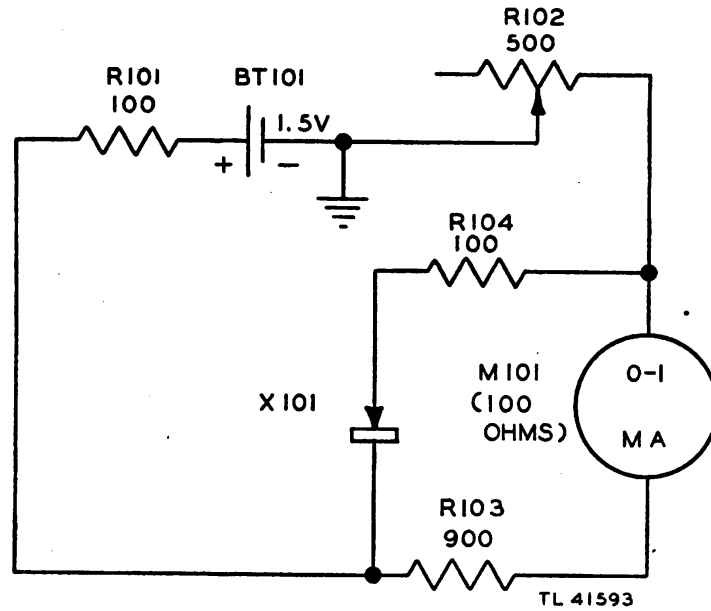

Figure 9. Meter-adjusting circuit for back current measurements, simplified schematic diagram.
(5) *MTR ADJ Position (fig. 9)*. When the selector switch is in this position, battery BT101, fixed resistor R101, and variable resistor R102 are connected in series with a two-branch parallel circuit consisting of the crystal rectifier and resistor R104 (100 ohms) in one branch, and meter M101 (100 ohms) and resistor R103 (900 ohms) in the other branch. The connections to the crystal rectifier are such that the backward resistance of the crystal is in the circuit. Since the backward resistance of a crystal rectifier is quite high, the effective resistance of the parallel circuit is essentially that of the branch containing the meter and resistor R103, or 1,000 ohms. This circuit is used to adjust the meter pointer to full-scale deflection before measuring the current in the reverse direction through the crystal rectifier. Since the sensitivity of the meter is 1 milliampere, adjustment of resistor R102 to give full-scale deflection of the meter pointer causes a potential of